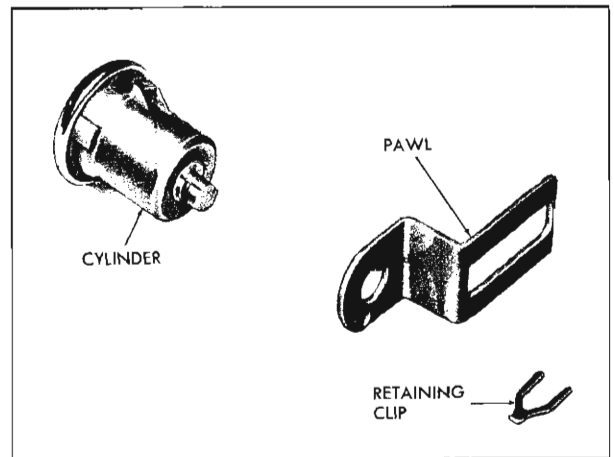

Fig. 12-27 Door Lock Cylinder Assembly
2. With a suitable tool, remove retainer and pawl (Fig. 12-27).